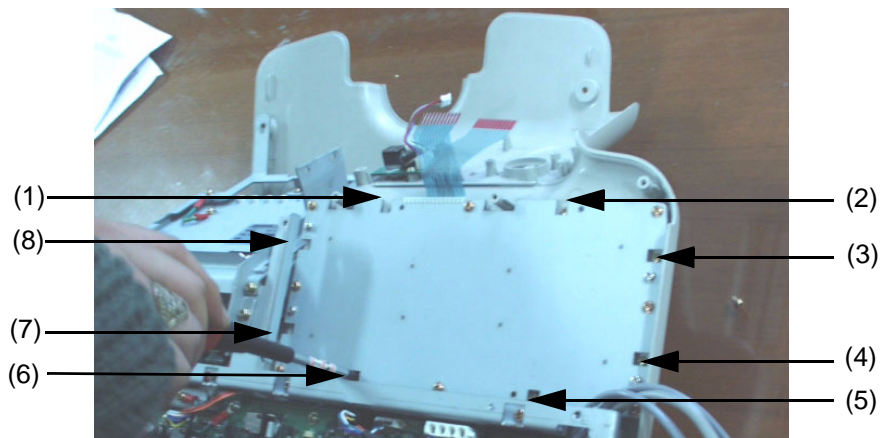

Figure 8-36    Unscrew 8 screws
- 5.) Unscrew eight (8) screws (1-8) to remove the the A/N keyboard Assy. Refer to section Figure 8-36.